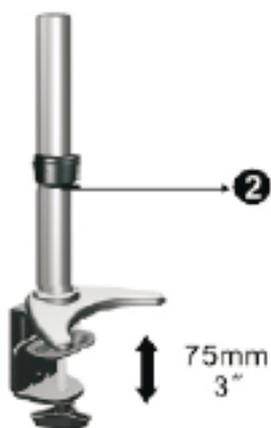

Figure 1
1. Adjust the height of the Desk Clamp (2) to suit desktop surface (See Figure 1)